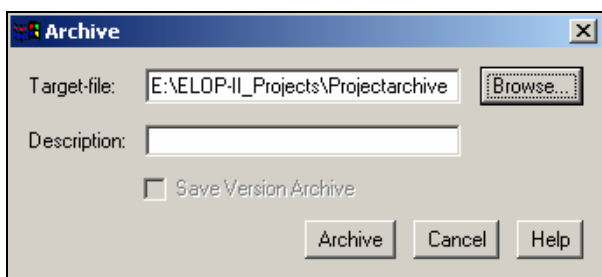
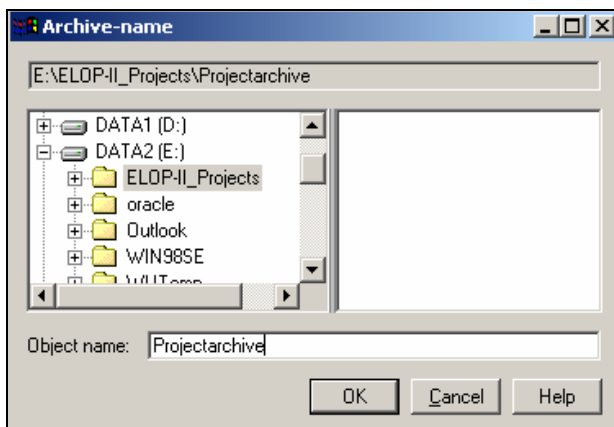

Fig. 117: Define the archive name
Fig. 118: Browse for the target path
- ☐ In the “Archive” window (Fig. 117) specify the path where the project should be archived. In the field **Target-file** enter the directory or press the **Browse...** button to select a directory (Fig. 118).